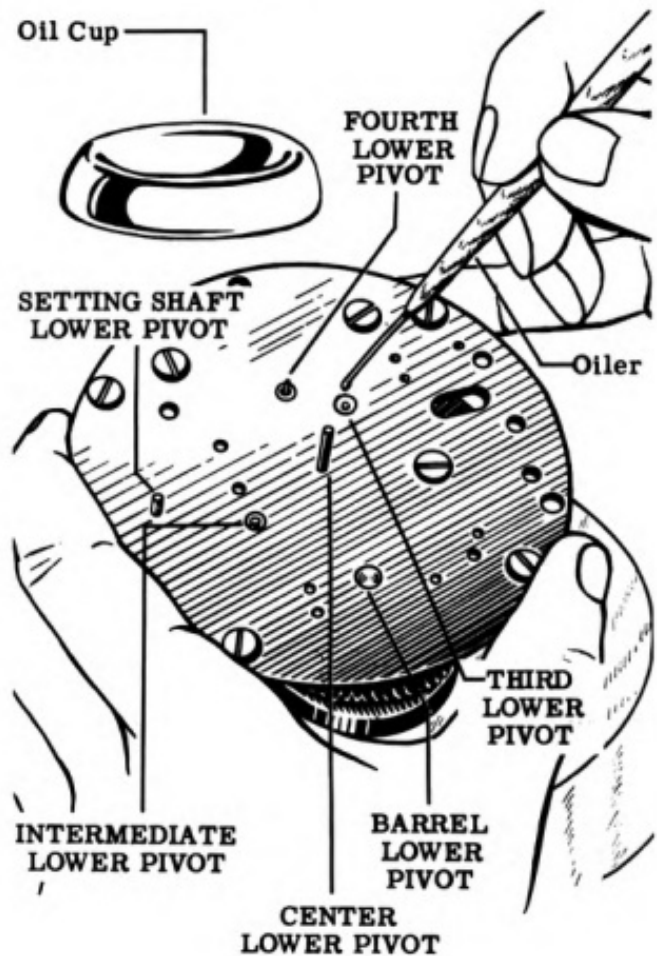

Figure 82
21. Turn the movement over so that it is dial side up in the work block. Oil the lower pivots of the barrel arbor, the setting shaft, the center wheel, the intermediate wheel, the third and the fourth wheels. These points are shown on Fig. 82. See the Control Manual. Reach underneath the front